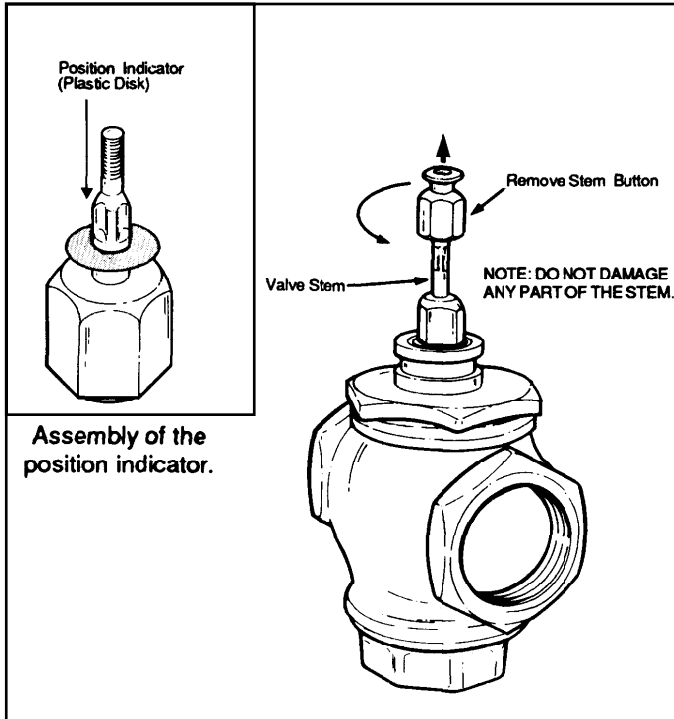

FIG.3 -- PREPARATION FOR VALVE ASSEMBLY.
3. Remove the stem button (Fig. 3) from the valve stem. Save the set screw inside the stem button for later installation. The button itself is not needed.
4. Slide the position indicator (plastic disk or rubber O-ring) over the valve stem. (See inset, Fig. 3) Indicator will self-align to the marking on the yoke after one complete operating cycle.